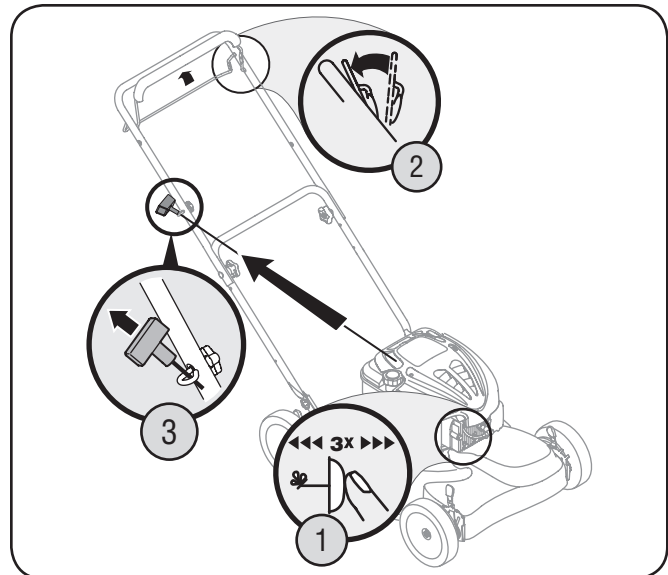

Figure 5-1
1. If equipped, push primer three times. Wait about two seconds between each push. See Fig. 5-1. In temperature around 55° F or below, prime five times. Do not prime to restart a warm engine.
3. Holding these two handles together firmly, grasp recoil starter handle and pull rope out with a rapid, continuous, full arm stroke. See Fig. 5-1. Keeping a firm grip on the starter handle, let the rope rewind slowly. Repeat until engine cranks. Let the rope rewind each time slowly.